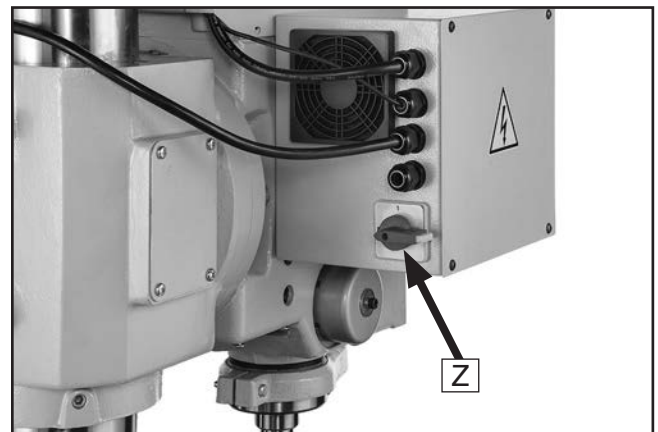

Figure 5. Master Power Switch in OFF position.
- Z. Master Power Switch:** Toggles incoming power **ON** or **OFF**. Vertical position toggles incoming power **ON**. Horizontal position, (see **Figure 5**) toggles incoming power **OFF**.